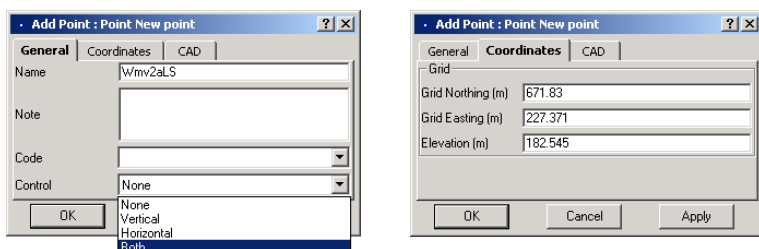

Figure D-33. Add Point Dialog Box - General and Coordinates Tabs
2. Enter a point's *Name* (Wmv2aLS) and *Coordinates* in the Local System (Figure D-33). Click **OK**.